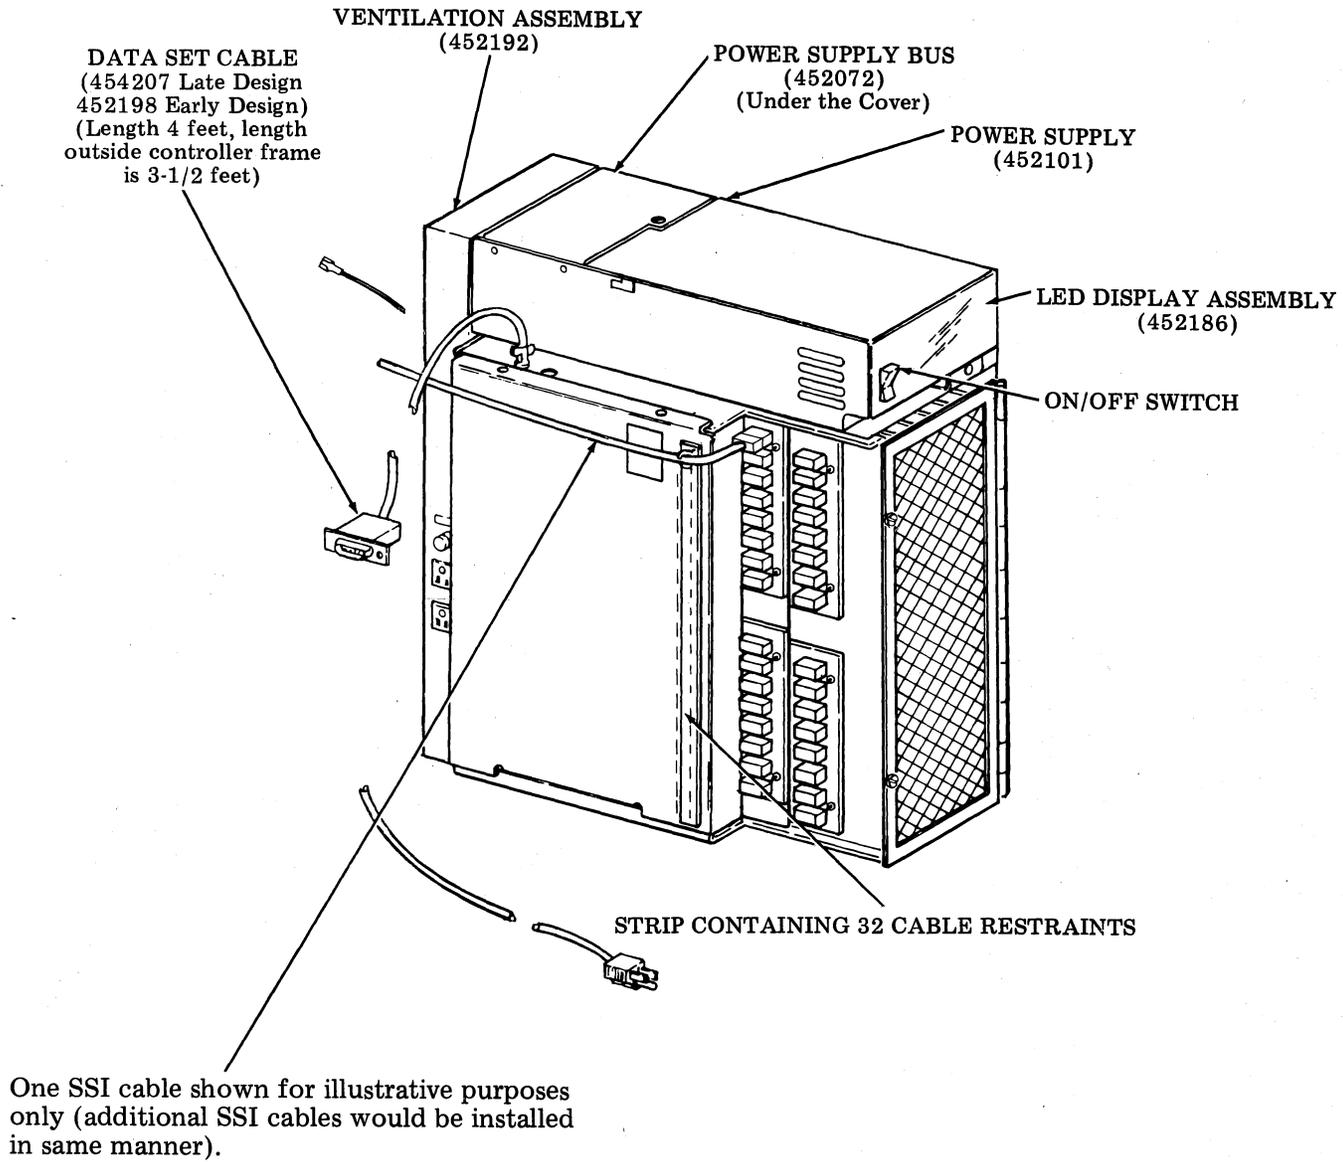

Fig. 14
2.01 Fig. 14 shows a 45C340 Controller with all covers in place.
3.11 Refer to the example in Fig. 21. The marking of the orange label (at the device end) is the device number, then the controller number where the other end is connected. The marking of the yellow label (at the controller end) is the controller number, then the device number. The device number specifies the appropriate controller connector and the device where the other end is connected. Mark the tags for the station using a nonsmearing nylon marking pen. Attach the tags. Pregummed labels can be marked then attached to the tags if desired. The tags for the controller end of the cables must be installed so that they do not interfere with the controller cable restraints shown in Fig. 14.